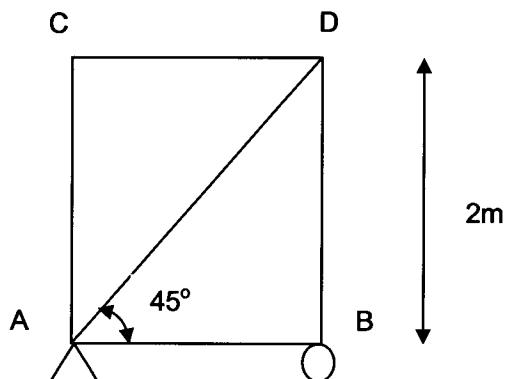

Figure 6(b)/Rajah 6(b)
- (b) If a part of a typical steel truss AD shown in **Figure 6(b)** is subjected to an axial force of 15kN, what is the value of linear deformation (dL) that can occur in such a member assuming the value of area of section is 250mm^2 and Elastic Modulus is 200kN/mm^2 .